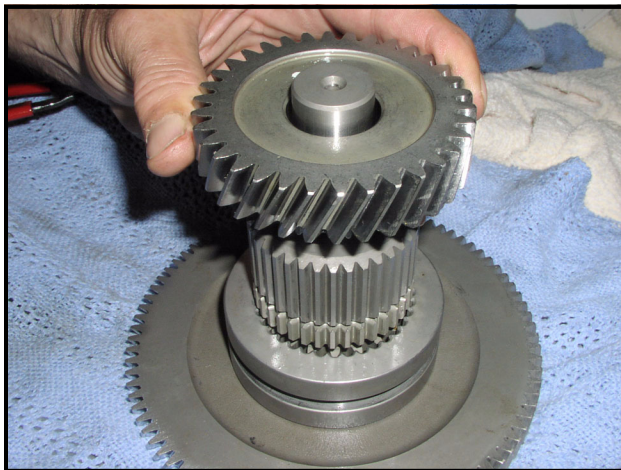

Figure 8-71 Small Helical Gear
12. Install the small helical gear onto intermediate shaft (**Figure 8-71, Page 8-21**).